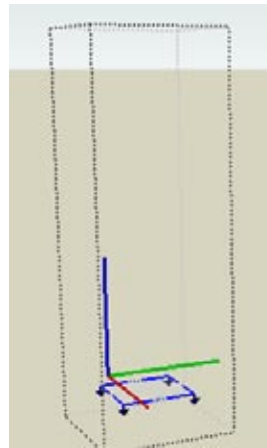

Figure 11-63
8. Place a section plane at the top of the tower, and move it down past the bottom, so that no part of the tower is visible (Figure 11-63). Save this as Scene 4.